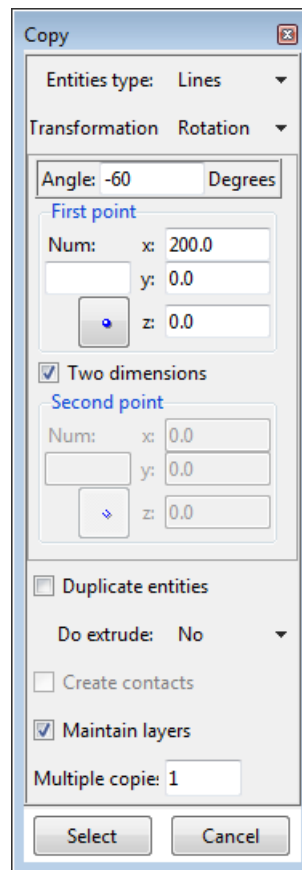

Figure 4. The copy window
- 7 . Go to the **Copy** window (Figure 4), which is found in **Utilities->Copy**.